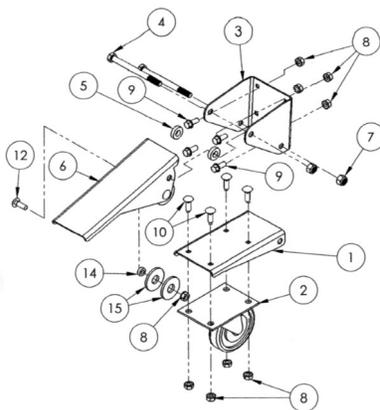

Figure 19. Locking caster
- Assemble the single locking caster (Figure 19).
- Attach the caster to the caster lower arm using (4) 5/16"-18 x 1/2" hex bolts and (4) 5/16"-18 hex nuts. Attach the caster assembly to the mounting bracket using (1) 5/16"-18 x 3-3/4" hex bolt and (1) 5/16"-18 locking hex nut, tightening enough for the mounting bracket to be secure, yet still move.